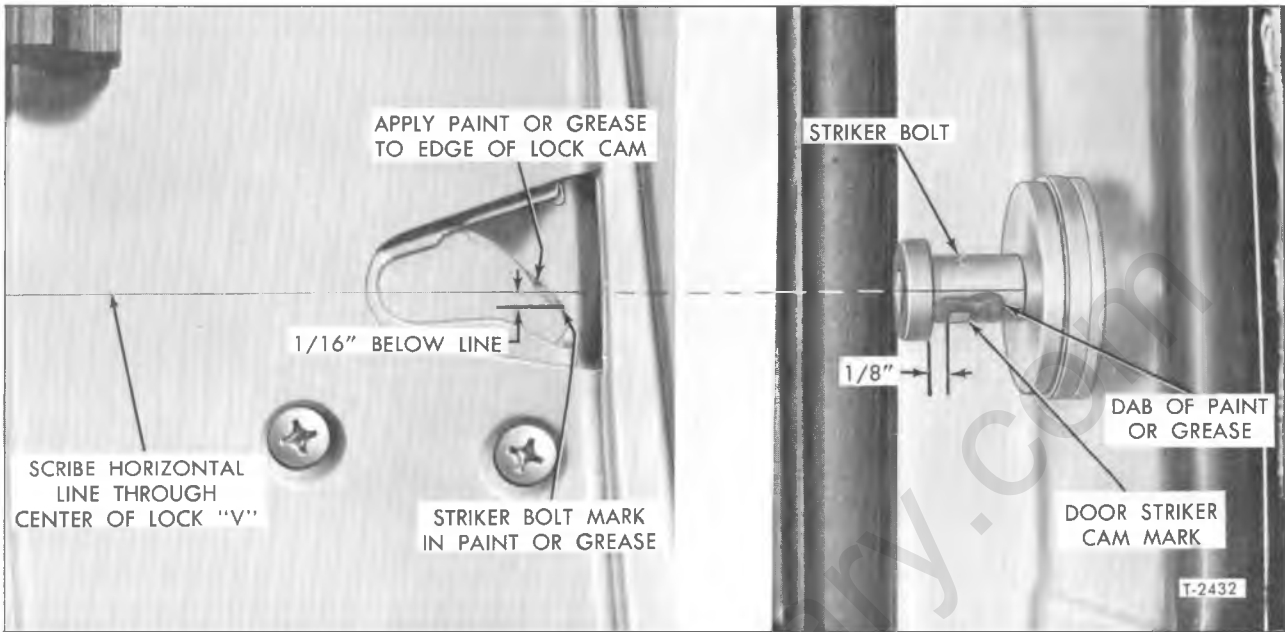

Figure 9—Striker Bolt Alignment Points
1. To check striker bolt for proper fore and aft adjustment, smear grease or paint to contact side of bolt as shown in figure 9.
3. Measure distance between head of bolt and the cam impression in grease. Distance should measure 1/8-inch as shown in right view of figure 9. This dimension is necessary to assure that the head of striker bolt will ride at center of nylon
1. Mark a horizontal line through center of "V" slot and on door lock cam as shown in figure 9.
2. Smear some grease or paint on contact edge of lock cam as shown in figure 9.